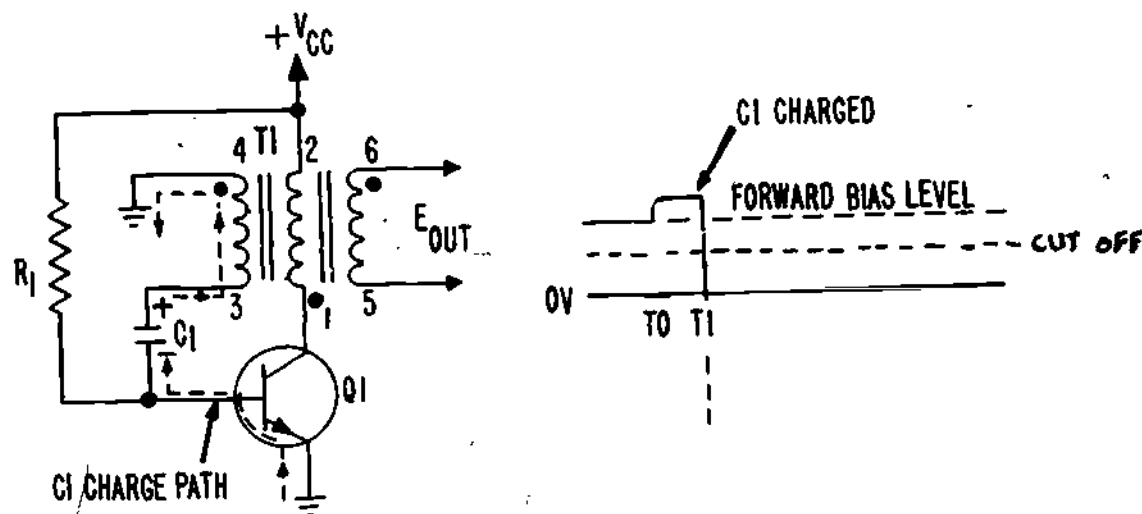

Figure 8
11. At the same time that current flows through Q1, C1 charges to a voltage equal to the secondary voltage of the pulse transformer T1. The waveform shown to the right of the schematic in Figure 8 illustrates this.
Because the base-emitter junction of Q1 is heavily forward biased, the junction resistance is very small. Therefore, the RC charge time of C1 is short as indicated by the waveform at the right of Figure 8. As the current through Q1 becomes smaller, the charge on C1 approaches the secondary voltage of the transformer. When the capacitor achieves a full charge, the current between the base and emitter of Q1 is reduced to a point where the transistor no longer conducts. In effect the transistor is cut off at this point.